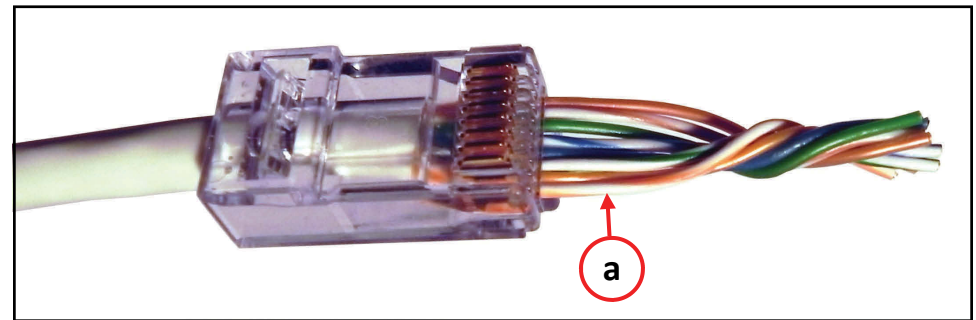

Figure 4
- 1) Twist conductors into a bundle per Figure 4 to ensure easy insertion into tool. Twist the conductors at the far end keeping them tension free at the connector face (a).